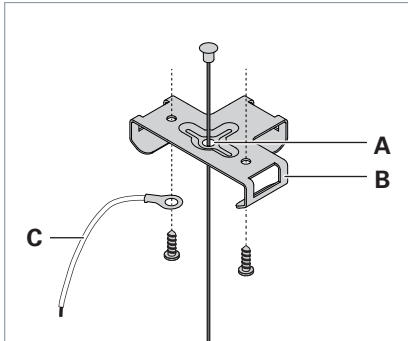

Fig. 6: Mounting the holding plate.
- ▶ Guide a wire rope from above through the recess **A** of the holding plate **B**, see Fig. 6.